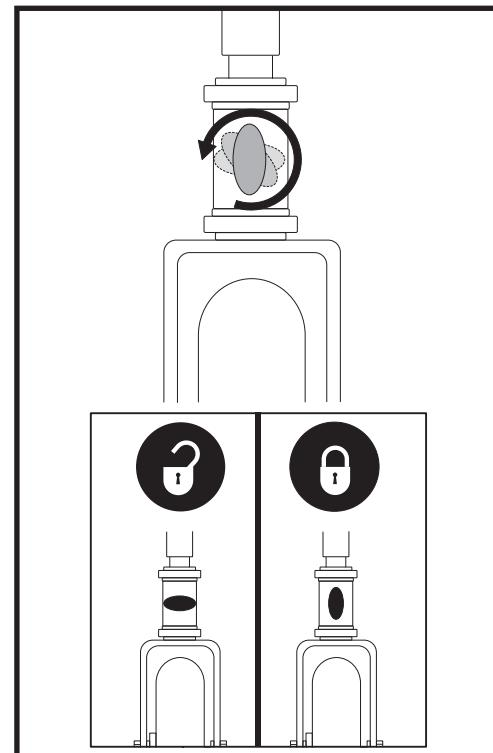

Figure 20. Tiller Lock Knob
1. Remove the key from the key switch. Lock the tiller in the straight ahead position by pushing the tiller lock knob in and turning it clockwise 90°. See **figure 20**. The front wheel must face forward in order to lock the tiller.